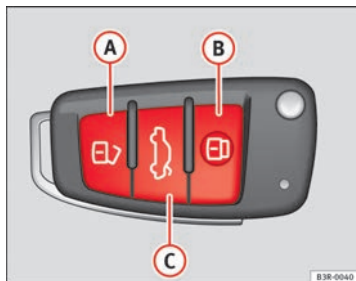

Fig. 77 Remote control key: Control buttons
- Press button **A** ⇒ fig. 77 for about 1 second.